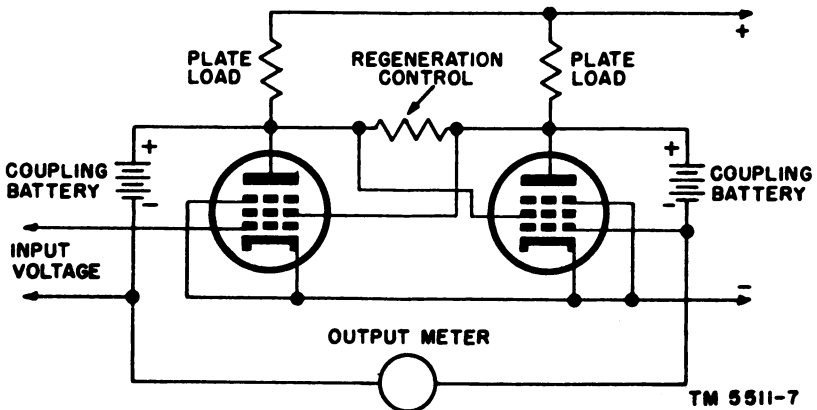
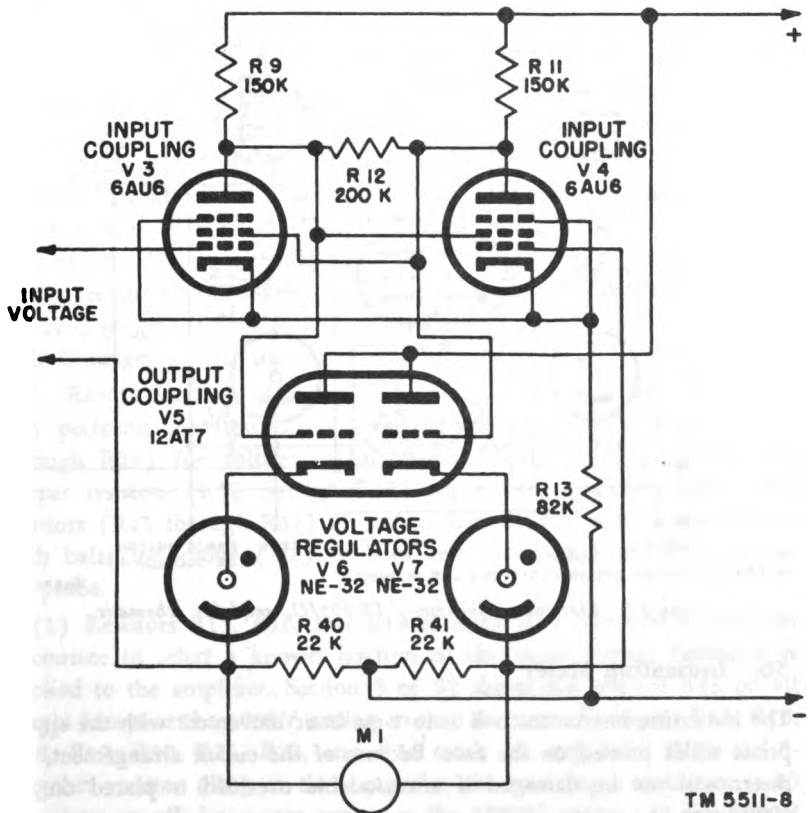
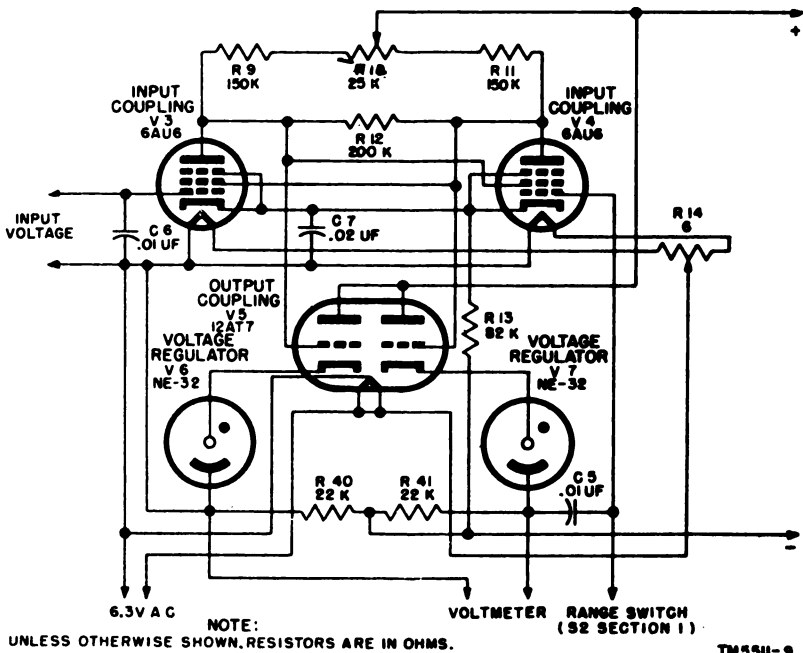

Figure 7. Simplified circuit illustrating amplifier operation.
Figure 8. Amplifier, simplified schematic.
Figure 9. Electronic Multimeter TS-505/U, amplifier schematic.
a. The amplifier portion of the multimeter consists of tubes V3, V4, V5, V6, and V7. The operation of the amplifier will be understood more easily after an analysis of the circuit in figure 7. If the coupling batteries are removed, the screen grid, plate, and cathode of one tube are so phased with the corresponding elements in the other tube that the two tubes will act as a multivibrator. Since the circuit is in a state of oscillation, infinite gain is theoretically available from the amplifier because any minute voltage would be greatly amplified. However, the circuit cannot be used in this manner because it would be much too unstable. If the coupling batteries are replaced, it is seen that the action from plate to grid is degenerative. Under these conditions, the output voltage will be equal to the input voltage, thus maintaining a high input resistance and at the same time yielding the low output resistance necessary to operate the meter. The magnitude of the voltage from the coupling battery should be such as to give the proper bias to the tube.
b. The circuit in figure 8 is a simplified version of the circuit label which is found in Electronic Multimeter TS-505/U. The coupling batteries in figure 7 have been replaced by tubes V5, V6, and V7. Using tube V5 for coupling permits the operation of the plates of tubes V3 and V4 without any loading. Loading would occur if neon glow lamps V6 and V7 were connected directly to the plates of tubes V3 and V4. The neon glow lamps provide a low resistance coupling from tube V5 to the meter. Resistor R9 and R11 determine the gain of tubes V3 and V4. Resistor R12 sets the amplifier gain to unity. Resistors R40 and R41 provide a resistance across which the output voltage is developed. Resistor R13 is the biasing resistor for tubes V3 and V4.
c. The actual schematic diagram of the amplifier in the multimeter (fig. 9) is the same as that in figure 8 with the addition of several
components. Resistor R10 is used to adjust the zero setting of the meter. Resistor R14 is a coarse zero adjustment to allow for large variations in the characteristics of tubes V3 and V4 and to set the multimeter within the range of resistor R10. Note that the negative point of the power supply is not connected directly to one terminal of the input voltage under measurement. In figures 7, 8, and 9, the schematic indicates an open circuit in the grid of V3; actually, a resistor appears across this grid at all times. In figure 9, the indicating meter is not shown because the output is first applied to the switch before going to the meter.